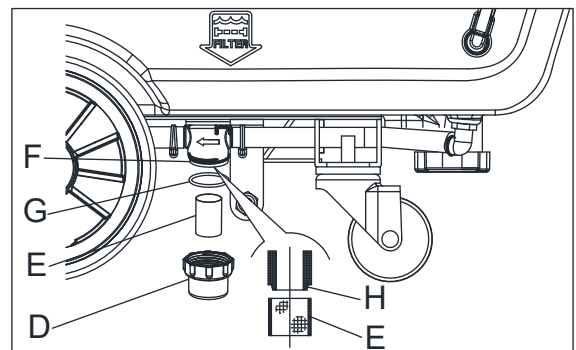

Figure 16
2. Ensure that the machine is off and the ignition key (35) has been removed.
4. Remove the transparent cover (D, Figure 16), then remove the filter strainer (E). Clean and install them on the support (F).